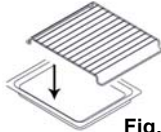

Fig. 2
- Place the wire rack on the broil pan. (Fig. 2)
- When broiling time is complete, the oven will turn "Off" and the unit will beep five (5) times.